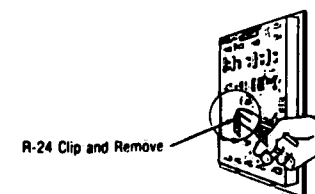

Figure 7-16. CLIP AND REMOVE R-24.
b. If the entire primary control is to be replaced, replacement control (Fig. 8-10, 24) must be modified for use in Vacamatic sterilizer. Do this by clipping and removing R-24, as shown in Figure 7-16.